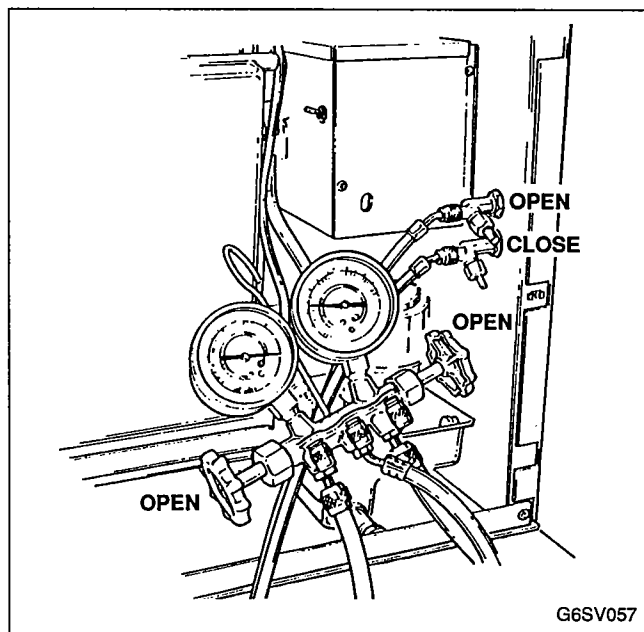

FIGURE 37. INSTALLING MANIFOLD GAUGES
1. Connect high side line to high side service valve at ice machine. See Figure 37.